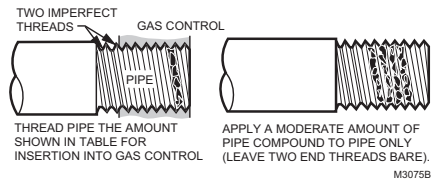

Fig. 4. Use moderate amount of pipe compound.
4. Apply a moderate amount of good quality pipe compound (do not use Teflon tape) only to the pipe, leaving two end threads bare. On LP installations, use a compound resistant to LP gas. See Fig. 4.